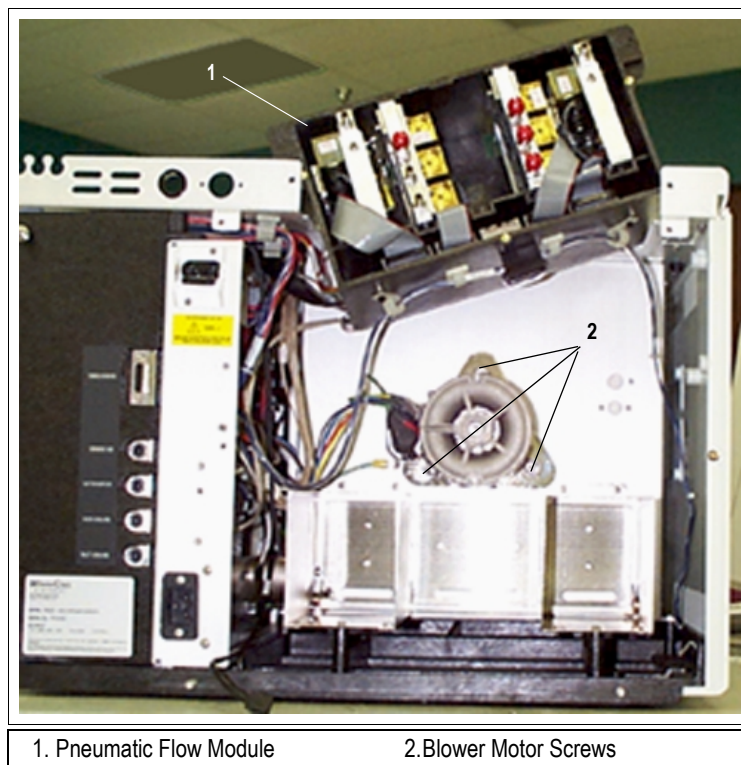

Figure 4.1-2. Pneumatic Flow Module Propped on the GC Upper Deck
3. Prop the pneumatic flow module out of the way on the GC upper deck as illustrated in Figure 4.1-2.
Figure 4.1-2 shows the pneumatic flow module propped on the GC upper deck. Note the blower motor screws.